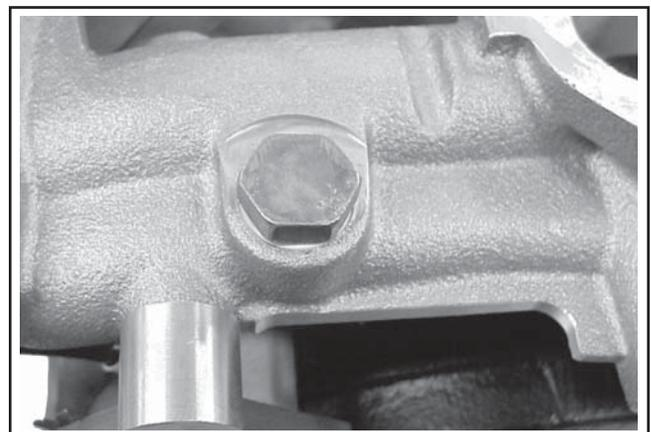

Figure 11-59. Plug in Intake Manifold (for Temperature Sensor).
4. Install and tighten the pipe plug or temperature warning switch, if removed previously from the threaded port of the intake manifold. Use **pipe sealant with Teflon®** (Loctite® 59241 or equivalent) on the threads. Torque to 22.6 N·m (200 in. lb.). See Figure 11-59.